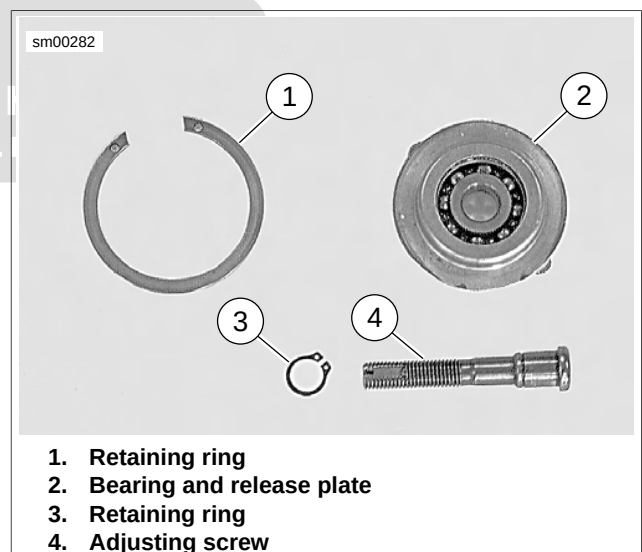

Figure 6-25. Adjusting Screw Assembly
5. See Figure 6-25. Remove adjusting screw assembly.
- a. Remove large retaining ring (1).